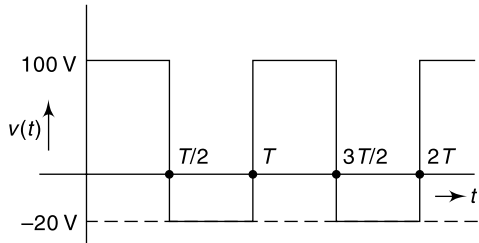

Fig. 5.73 Waveform for Ex. 5.117
5.117 Determine the average and the rms values of the waveform shown in Fig. 5.73.